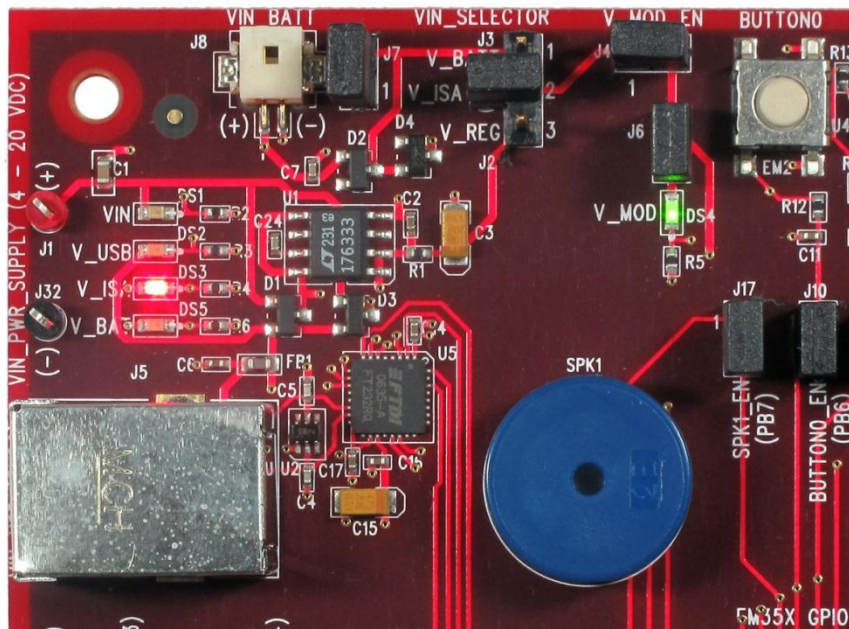

Figure 8. Breakout Board Power Supplied by Debug Adapter (ISA3)
- Breakout Board Power Supplied by Debug Adapter (ISA3) (*Figure 8*): The default configuration is to supply power via the Debug Adapter (ISA3) and Packet Trace Port cable. Ensure the power switch on the Debug Adapter (ISA3) is in the INT (Internal) position. The power supply of the Debug Adapter (ISA3) is also controlled via the admin interface. You may need to connect to the admin port of the Debug Adapter (ISA3) and issue the “power on” command. No external power supply should be connected to the Breakout Board when supplying power from the Debug Adapter (ISA3). The power supply jumper on the Breakout Board should be in the horizontal position, connecting V_ISA to the center pin. The V_ISA LED will illuminate when power is applied.